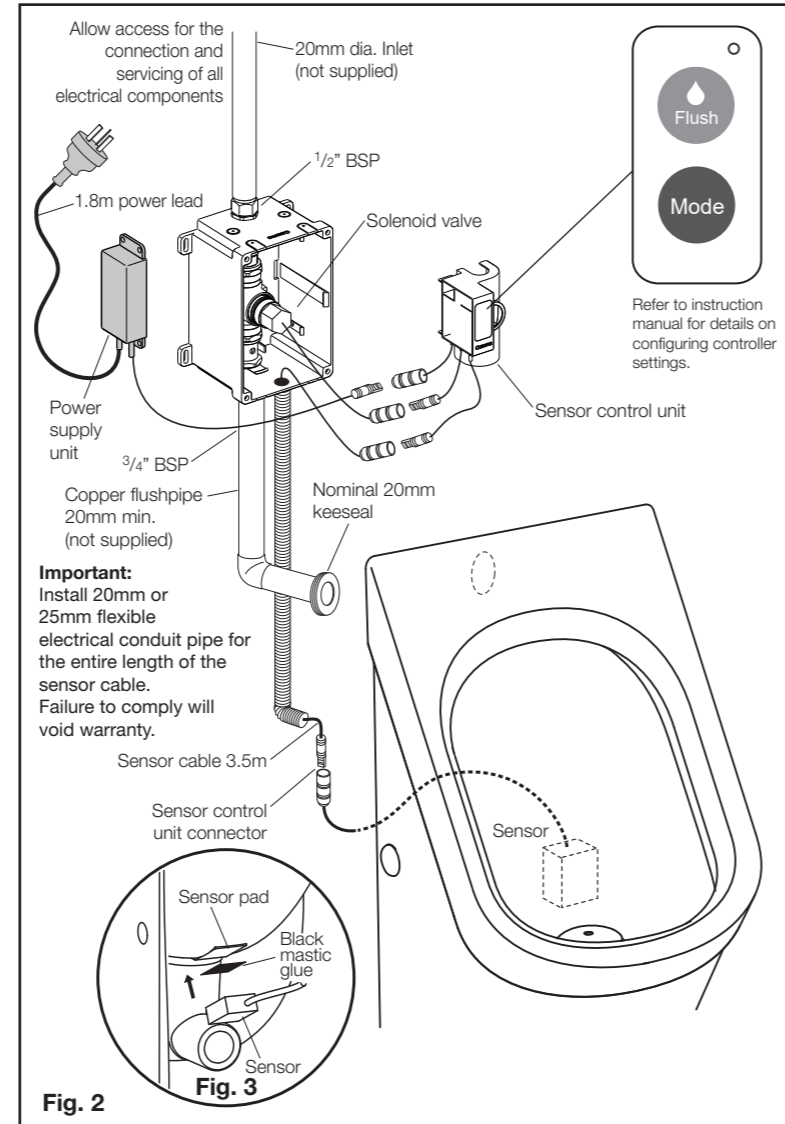
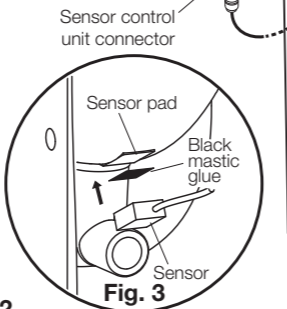

Fig. 2
Fig. 3
8. Make connection from Power Supply Unit to Sensor Control Unit as detailed in Fig. 2. **DO NOT SWITCH ON POWER SUPPLY.**
9. Clean rectangle pad area at the back of the urinal ensuring it is free of dust and grease. Apply mastic glue supplied to the black plastic side of the Sensor (opposite side to the label). Adhere Sensor on the urinal with cable pointing upwards, as detailed in Fig. 3. Connect Sensor Control Unit Connector as detailed in Fig. 2.